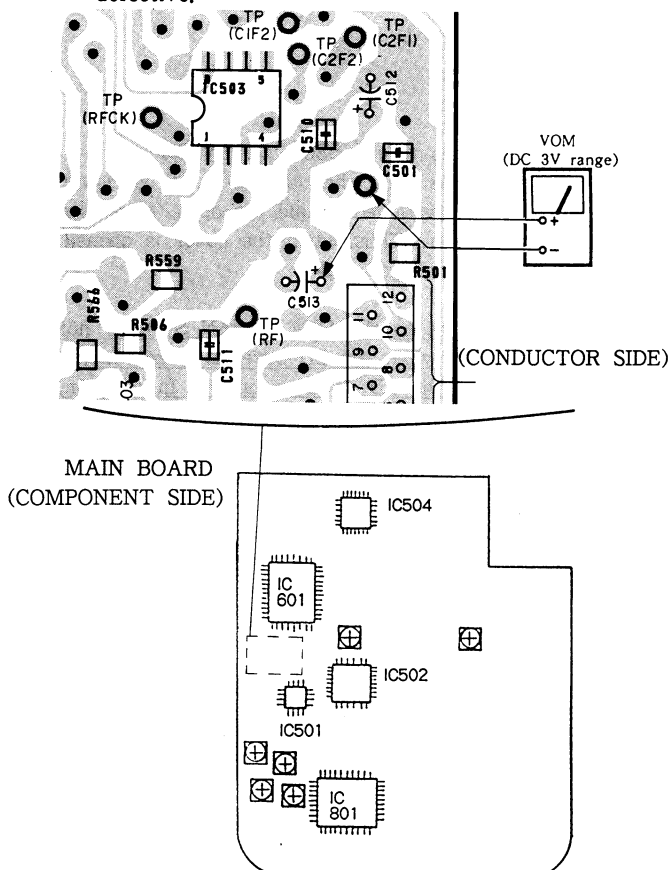

Fig.2 VOM Connection
3. Connect a VOM as shown in Fig. 2.
- (2) Place the positioning jig on the mechanism as shown in figure 2. The shaft comes in the "U" gutter of jig.